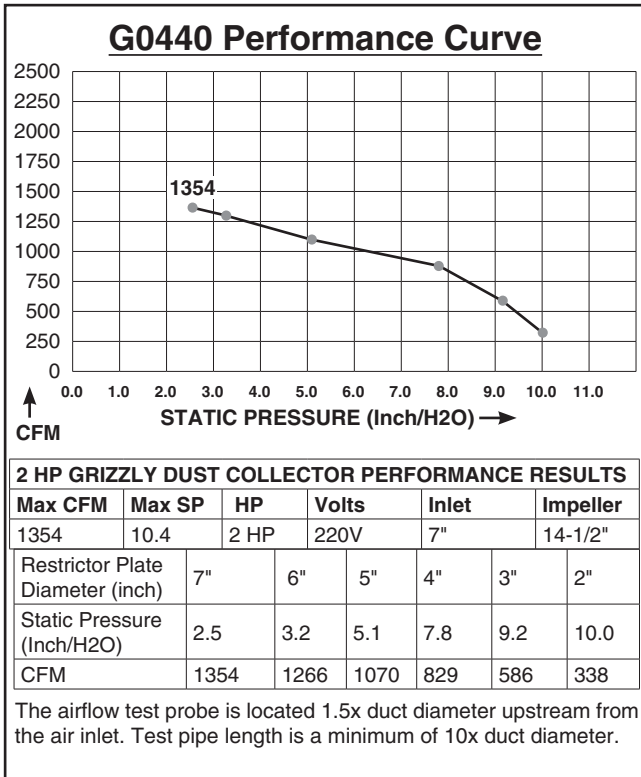

Figure 50. G0440 performance curve chart and data.
5. Compare the total static pressure loss for that line to the closest CFM given in **Figure 50** for your dust collector on **Page 34**.